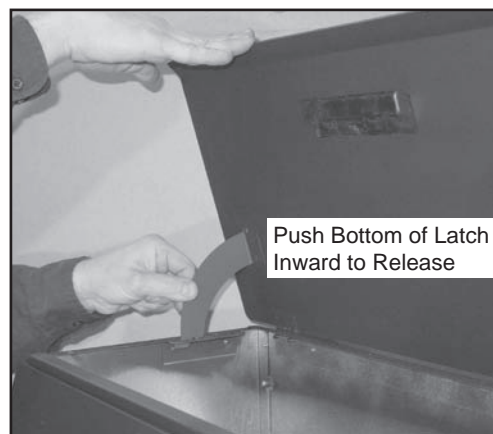

Figure 9.3
3. To close the hopper lid, while holding lid open with one hand, push the bottom of the latch inwards to release from locked position and then slowly close the hopper lid. **Figure 9.3.**